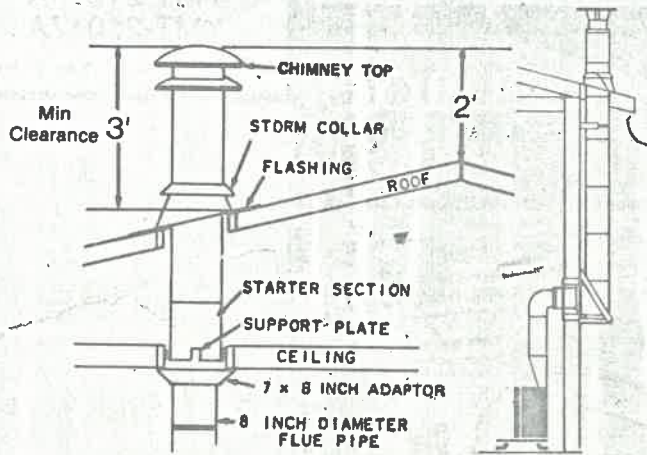

FIG. 1
Model 8SS Metalbestos (Wards Article No. 74-22110-12) 8-inch stainless steel chimney is recommended. Chimney must have normal draft. Chimney top must be high enough so as not to be restricted by overhanging tree tops or nearby taller buildings. Both will tend to create down drafts under certain wind conditions. Secure flue pipe to heater flue collar by means of screws through the holes provided. (This piping must comply with local codes or regulations.) For best results, horizontal flue pipe should be kept to a minimum and an upward slant of at least 1/4-inch per foot of pipe be maintained. (Fig. 1)
**2. The chimney top must be 3 feet above the highest point where it passes through the roof of the building and at least 2 feet higher than any point within 10 feet. (Fig. 1)**